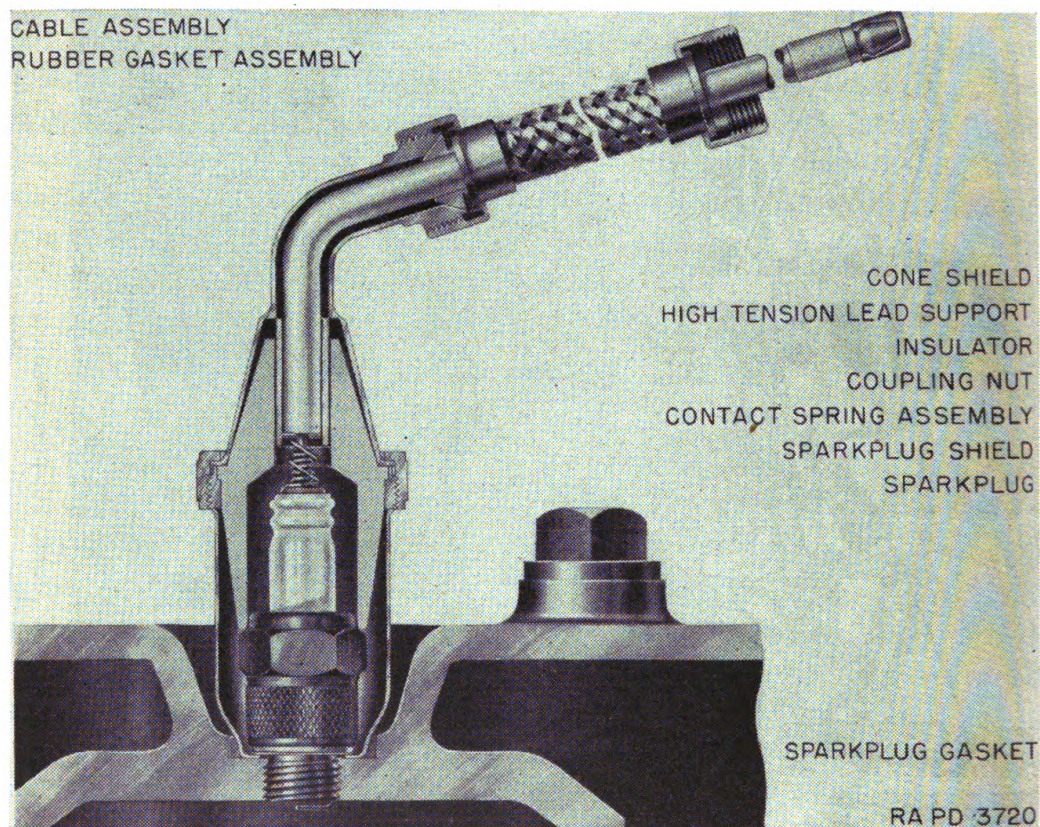

FIGURE 67.—Spark plug with shielding, installed.
31. Spark plugs.—*a. Description* (fig. 67).—The spark plugs are of a commercial type with gap that can be set by bending the side electrode.